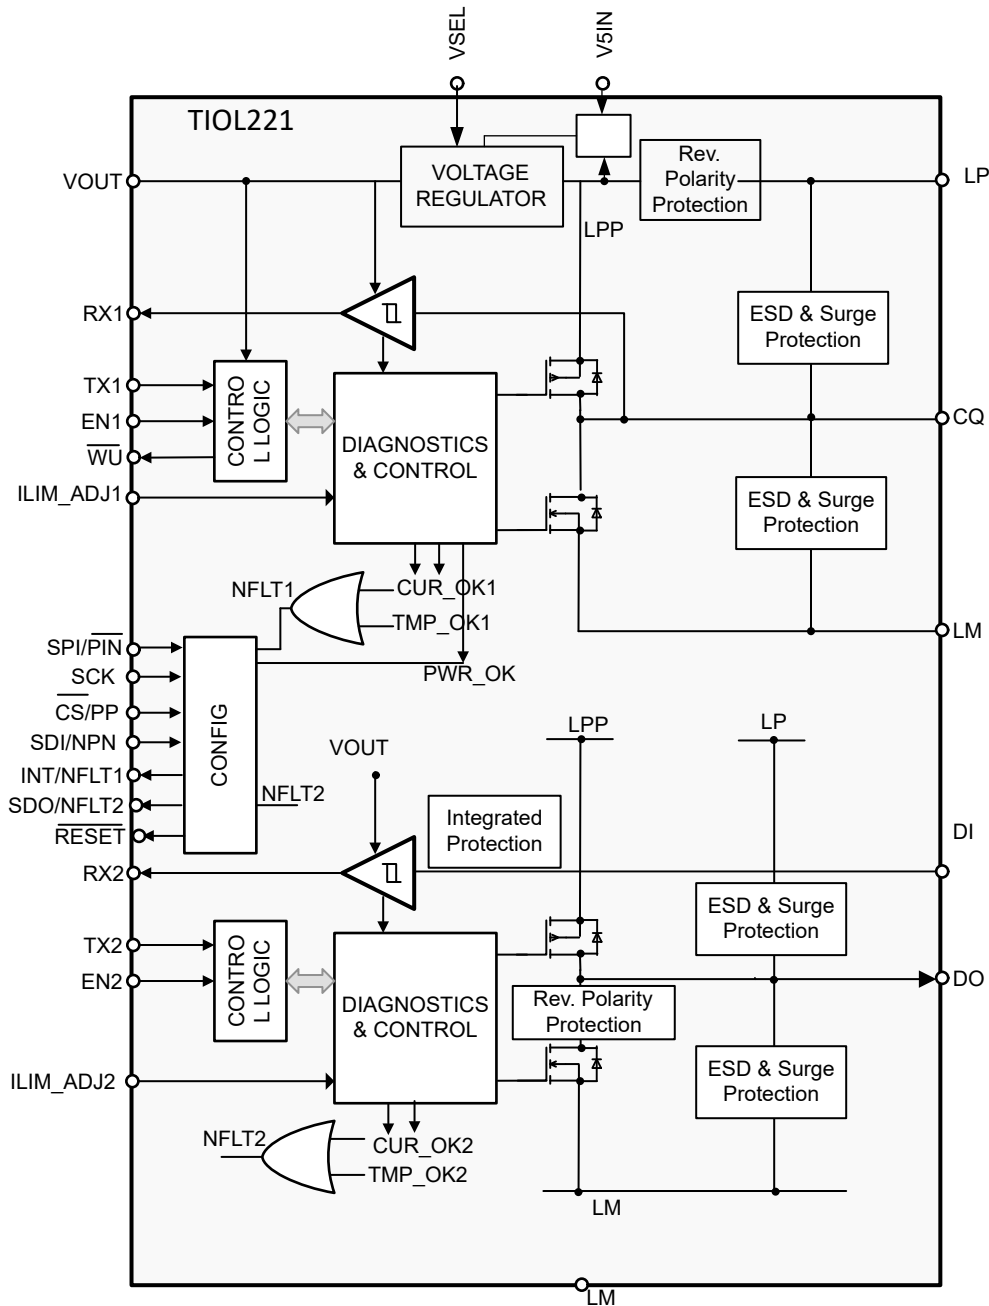

Figure 7-1. Block Diagram
Figure 7-1 shows the functional block diagram of TIOL221. The device has an IO-link compatible channel (CQ), a digital output driver (DO) and a digital input (DI) interface. The drivers at CQ and DO can be used in either push-pull, high-side driver (PNP), or low-side driver (NPN) configuration using the \overline{CS}/PP and SDI/NPN pins in the pin-mode or via the serial peripheral interface (SPI). The internal receiver on the CQ line converts the 24V signal to standard logic levels on the receiver data output pin, RX1. Similarly, internal receiver on the DI line converts the 24V signal to standard logic levels on the receiver data output pin, RX2. A simple parallel interface is used to receive/transmit data and status information between the device and the local controller.